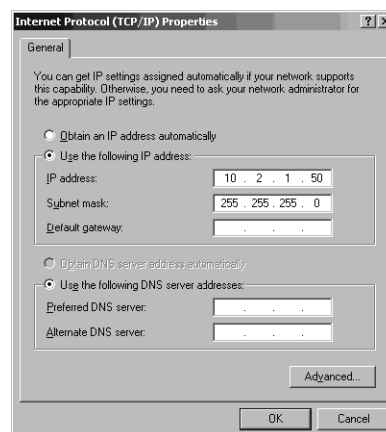

Figure 4. Internet Protocol TCP/IP Properties dialog box
- In the 'connections or components used check list' window, highlight Internet Protocol (TCP/IP) and then click the **Properties** button to display the Internet Protocol TCP/IP Properties dialog box (Figure 4).
5. Click the **Use the following IP Address** radio button and enter an IP Address and Subnet mask for your laptop. You can use an IP address that is one digit off from the customer supplied IP Address you will assign to the console's TCP/IP Interface Module. For example, if the IP Address for the TLS2P is 12.2.1.120, you would enter 10.2.1.119 for the laptop's IP Address. You also need to enter a Subnet mask. Use the same Subnet mask that is in the example in Figure 4 above (255.255.255.0). Click OK to accept your entries.
Note: Prior to reconnecting your laptop to a network, you will need to select the **Obtain an IP address automatically** radio button shown in Figure 4 above.